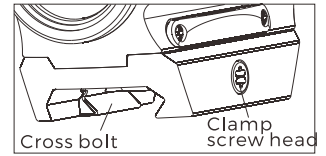

Fig 4
2. First insert the appropriate Torx wrench (included) into the clamp screw head, then rotate to loosen cross bolt then slide the sight into the weapon rail to the appropriate position, and finally tighten the clamp screw. (Fig4)